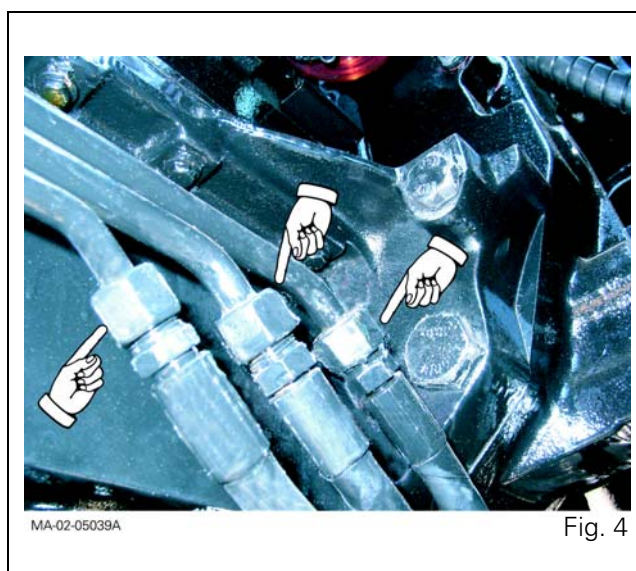

Fig. 4
- the hoses (pressure-return and LS) on the rigid pipes (Fig. 4) of the suspended front axle (if fitted)